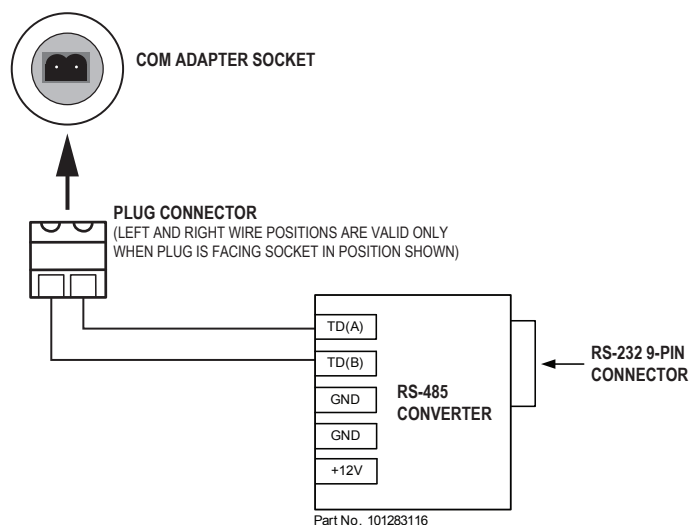

Figure A.15—Wiring of plug connector to Cameron 9-pin RS-232 to RS-485 converter cable
The adapter is shipped pre-assembled in the Scanner 2100 when it is ordered with the unit. The installed adapter is comprised of an RS-485 adapter socket, a blanking plug, and a union nut. A plug connector that mates with the RS-485 adapter socket when the adapter is in use is shipped with the device (uninstalled). This plug connector should be wired to an RS-485 converter cable, and stored with the cable when the COM adapter is not in use. Wiring instructions for connecting the plug connector to an RS-485 converter cable are provided in Figure A.15, page A-10.
1. Unscrew the union nut to expose the connector socket shown in Figure A.15. A blanking plug will be removed with the union nut. Store the union nut and blanking plug in a safe place. (They will need to be reinstalled when the adapter is not in use.)
2. Connect the plug connector to an RS-485 converter cable, if it is not already attached (Figure A.15).